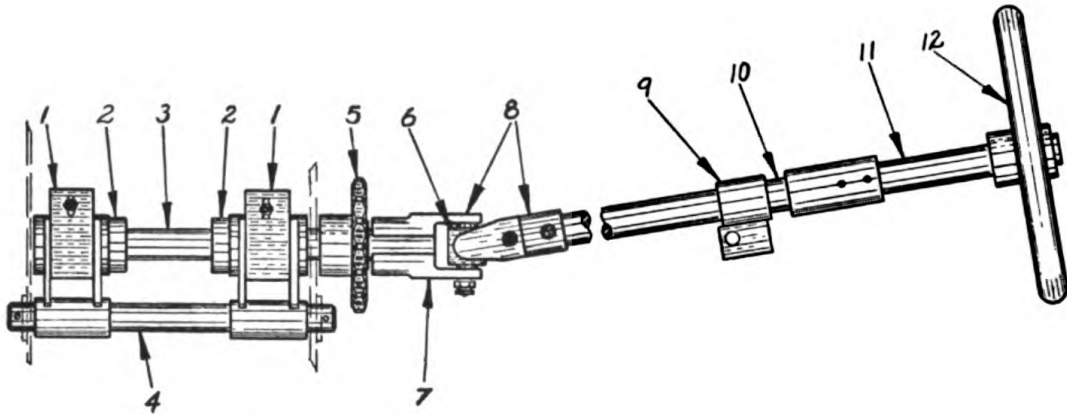

Figure 107. Hand wheel hoist for making minor adjustments.
The hoist handwheel (5B) Figure 96, (12) Figure 107, shafts (10) and (11), bracket (9), and universal joint made up of parts (6), (7) and (8) may all be renewed without removal of any other parts.